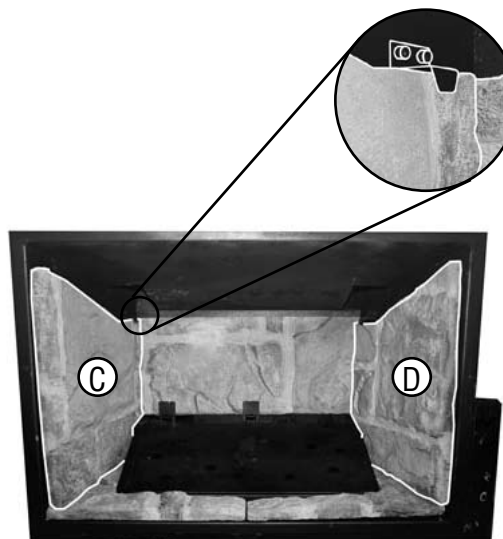

Figure 17
3. Position and slide the side panels against the rear panel. Make sure panels are behind brackets to hold them in at the top. The side panels will hold the rear brick panel against the back of the firebox. See **Figure 17**.